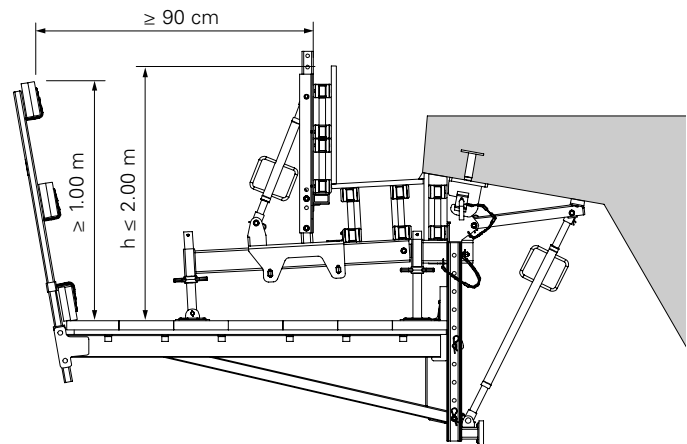

Fig. A6.02
- Installation of planking depending on the fall height h and span in accordance with DIN 4420-1, Table 2. (Fig. A6.02)